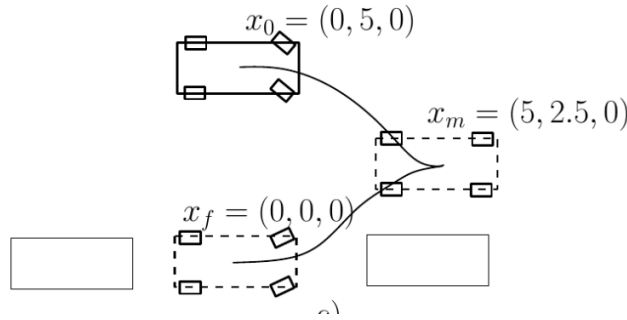

Figure 1: Parallel parking for the car.
- (b) (15 pts) The car is required to perform a parallel parking maneuver starting at state  $x_0 = (0, 5, 0)$ , going forward to state  $x_m = (5, 2.5, 0)$  and backing-up to state  $x_f = (0, 0, 0)$ . Employing the fact the system is differentially flat, give explicit expressions for the trajectory  $x(t)$  and required inputs  $u(t)$  to generate the two segments of the parking maneuver. You can use polynomial interpolation or another basis function approach in flat output space. Assume that each segment takes time  $T = 10$  s. When designing the paths, you can assume that the magnitude of the initial and final velocity of the car in each segment can be chosen freely, e.g. you can set  $|u_1| = 1$  m/s. See Figure 1.
- i. (10 pts) Generate a parking maneuver (see Figure 1) in flat output space  $y = (x_1, x_2)$  and use the explicit expressions derived in the previous question (part b) to compute the state trajectory  $x(t)$  and required inputs  $u(t)$  from  $y(t)$ . As in the previous assignment, the car is required to perform a parallel parking maneuver starting at state  $x_0 = (0, 5, 0)$ , going forward to state  $x_m = (5, 2.5, 0)$  and backing-up to state  $x_f = (0, 0, 0)$ . Assume that each segment takes time  $T = 10$  s. When designing the paths, you can assume that the magnitude of the initial and final velocity of the car is  $|u_1| = 1$  m/s. Now, implement a linearization-based tracking controller using part 2a and follow the generated path. Start at a “perturbed” initial state  $\tilde{x}_0 = (0.25, 5.25, 0.1)$  and show that your controller stabilizes to the desired trajectory. Plot the flat output trajectory relative to the generated maneuver, and plot the control trajectory.